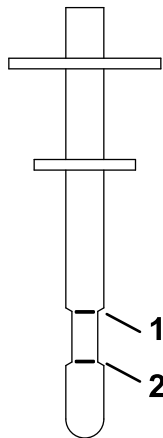

Figure 69
7. Place the dipstick into the filler neck, remove it, and check the fluid level (Figure 69).